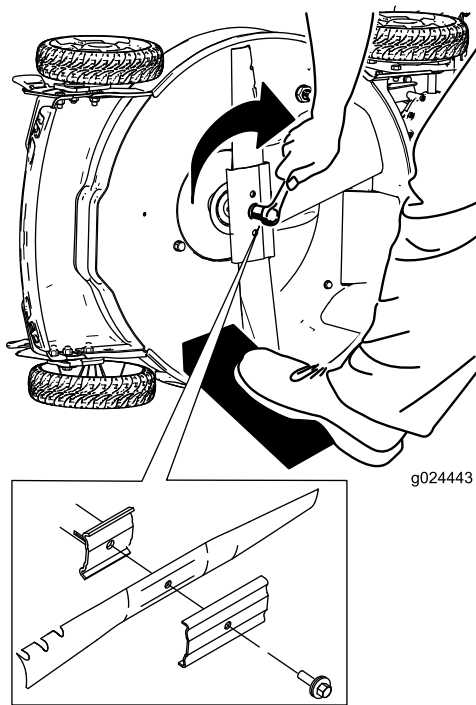

Figure 27
5. Install the new blade by turning the blade bolt clockwise (Figure 27).